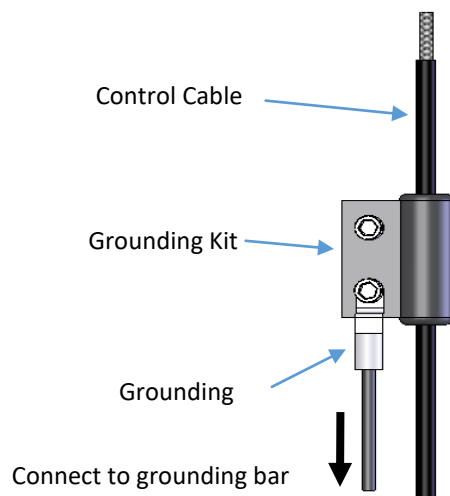

Figure 16
c) Control cables metal sheath attach to grounding kit as shown in Figure 16.